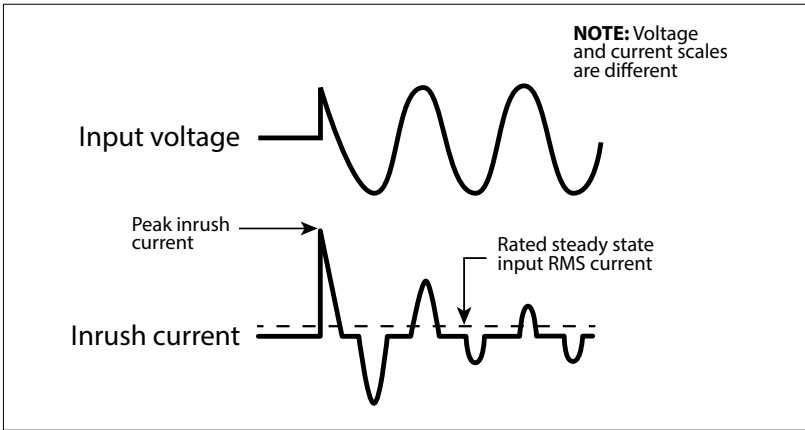

Fig 4.1: Inrush current in an SMPS
- **AC to DC Switched Mode Power Supplies (SMPS):** This type of power supply is used as stand-alone power supply or as front end in all electronic devices powered from Utility / Grid e.g. in audio/video/ computing devices and battery chargers (Please see Section 4 for more details on SMPS). When this power supply is switched ON, its internal input side capacitors start charging resulting in very high surge of Inrush Current for a few milliseconds (Please see Fig 4.1). This surge of inrush current / power may reach up to 15 times the Continuous Maximum Running Power Rating. The surge of inrush current / power will, however, be limited by the Surge Power Rating of the AC source.
**Power Factor, (PF):** It is denoted by "PF" and is equal to the ratio of the Active Power (P) in Watts to the Apparent Power (S) in VA. The maximum value is 1 for resistive types of loads where the Active Power (P) in Watts = the Apparent Power (S) in VA. It is 0 for purely inductive or purely capacitive loads. Practically, the loads will be a combination of resistive, inductive and capacitive elements and hence, its value will be  $0 < PF < 1$ . Normally it ranges from 0.5 to 0.8 e.g. (i) AC motors (0.4 to 0.8), (ii) Transformers (0.8) (iii) AC to DC Switch Mode Power Supplies (0.5 to 0.6) etc.
Switch Mode Power Supplies (SMPS) are extensively used to convert the incoming AC power into various voltages like 3.3V, 5V, 12V, 24V etc. that are used to power various devices and circuits used in electronic equipment like battery chargers, computers, audio and video devices, radios etc. SMPS use large capacitors in their input section for filtration. When the power supply is first turned on, there is a very large inrush current drawn by the power supply as the input capacitors are charged (The capacitors act almost like a short circuit at the instant the power is turned on). The inrush current at turn-on is several to tens of times larger than the rated RMS input current and lasts for a few milliseconds. An example of the input voltage versus input current waveforms is given in Fig. 4.1. It will be seen that the initial input current pulse just after turn-on is > 15 times larger than the steady state RMS current. The inrush dissipates in around 2 or 3 cycles i.e. in around 33 to 50 milliseconds for 60 Hz sine wave.